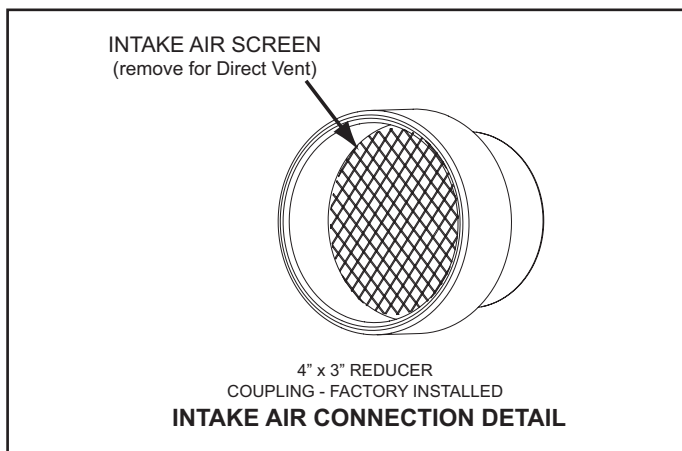

Figure 17
- Ensure the Intake Air Screen on the Intake Air Connection is removed before connecting the intake air pipe to the water heater, see Figure 17.